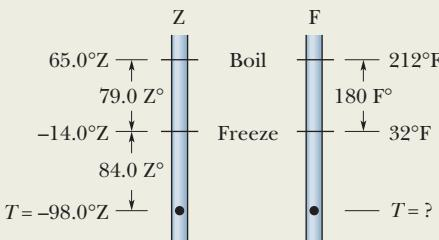

Figure 18-8 An unknown temperature scale compared with the Fahrenheit temperature scale.
**Calculations:** We begin by relating the given temperature  $T$  to *either* known temperature on the Z scale. Since  $T = -98.0^\circ\text{Z}$  is closer to the freezing point ( $-14.0^\circ\text{Z}$ ) than to the boiling point ( $65.0^\circ\text{Z}$ ), we use the freezing point. Then we note that the  $T$  we seek is *below this point* by  $-14.0^\circ\text{Z} - (-98.0^\circ\text{Z}) = 84.0^\circ\text{Z}$  (Fig. 18-8). (Read this difference as “84.0 Z degrees.”)
corresponding temperatures on the Fahrenheit scale. On the Z scale, the difference between the boiling and freezing points is  $65.0^\circ\text{Z} - (-14.0^\circ\text{Z}) = 79.0^\circ\text{Z}$ . On the Fahrenheit scale, it is  $212^\circ\text{F} - 32.0^\circ\text{F} = 180^\circ\text{F}$ . Thus, a temperature difference of  $79.0^\circ\text{Z}$  is equivalent to a temperature difference of  $180^\circ\text{F}$  (Fig. 18-8), and we can use the ratio  $(180^\circ\text{F})/(79.0^\circ\text{Z})$  as our conversion factor.